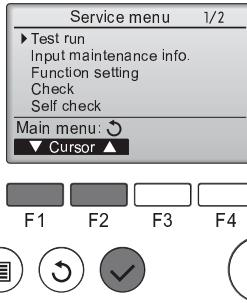

Fig. 7-4
- ③ Select "Test run" with the **F1** or **F2** button, and press the  button. (Fig. 7-4)